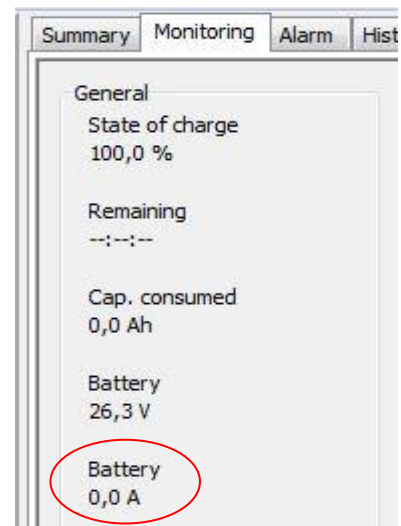

Figure 3-3: Checking zero current
- 6 Verify on the MLi Ultra monitoring page that there is no current flow. See figure 3-3.